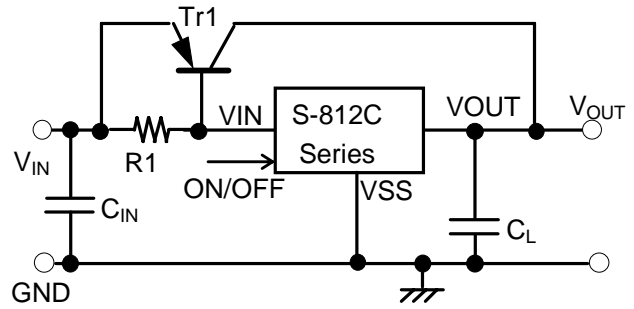

Figure 11 Output Current Boost Circuit
As shown in Figure 11, the output current can be boosted by externally attaching a PNP transistor. The S-812C controls the base current of the PNP transistor so that the output voltage  $V_{OUT}$  becomes the voltage specified in the S-812C if the sufficient base-emitter voltage  $V_{BE}$  to turn on the PNP transistor is obtained between input voltage  $V_{IN}$  and S-812C power source pin  $V_{IN}$ .
- As the transient response characteristics of the circuit shown in figure 11 is not enough in some applications, evaluation for output variation due to power-on, power line variation and load variation in actual condition is needed before massproduction.